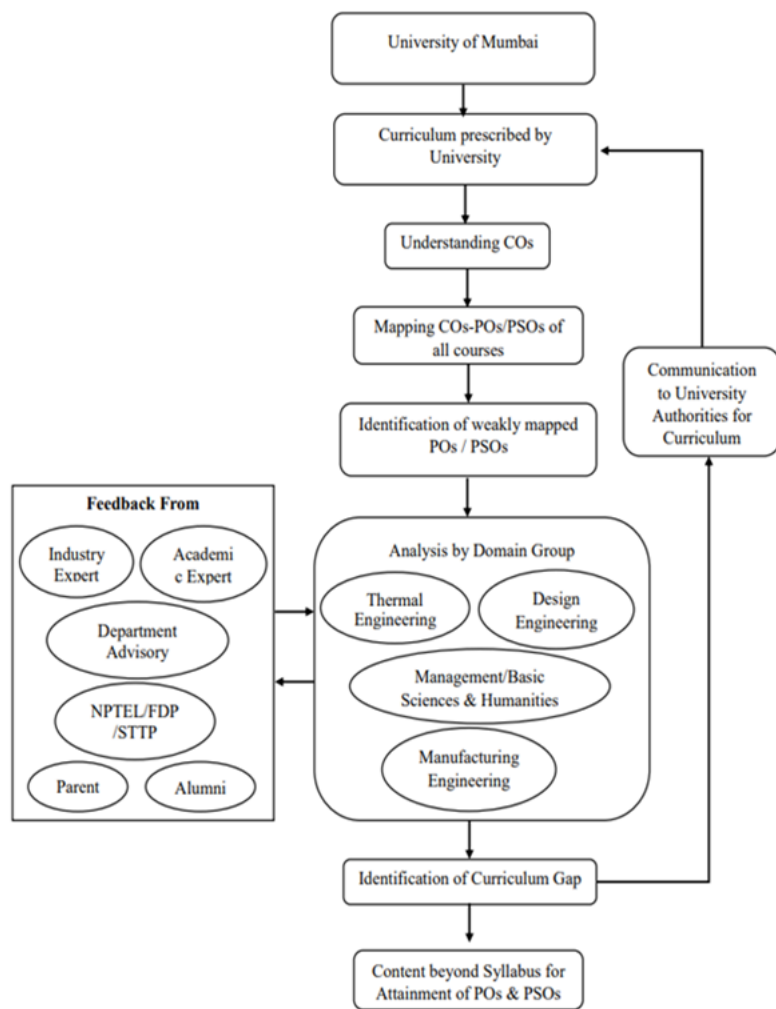

Figure 2.1.3: Process flow chart to identify Curriculum Gaps
- The mechanism for identifying the curriculum gap is shown in figure 2.1.3. It involves the interaction with the Alumni, Industry and academic experts and gathering their feedback on the same. Feedbacks from the parents also add to the process of identifying the curriculum gap.